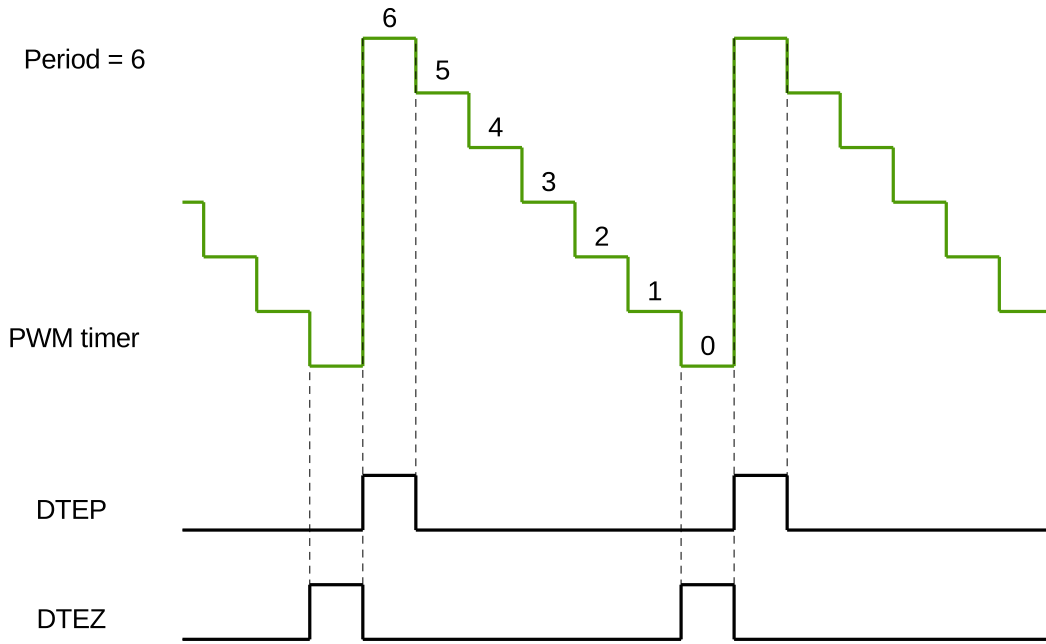

Figure 33-13. DTEP and DTEZ Generation in Count-Down Mode
2. DTEP and DTEZ do not happen simultaneously. When the PWM timer is in count-down mode, DTEZ will always happen one cycle earlier than DTEP, as demonstrated in Figure 33-13, so their action on PWM signals will not interrupt each other. When the PWM timer is in count-up-down mode, DTEZ will not occur.